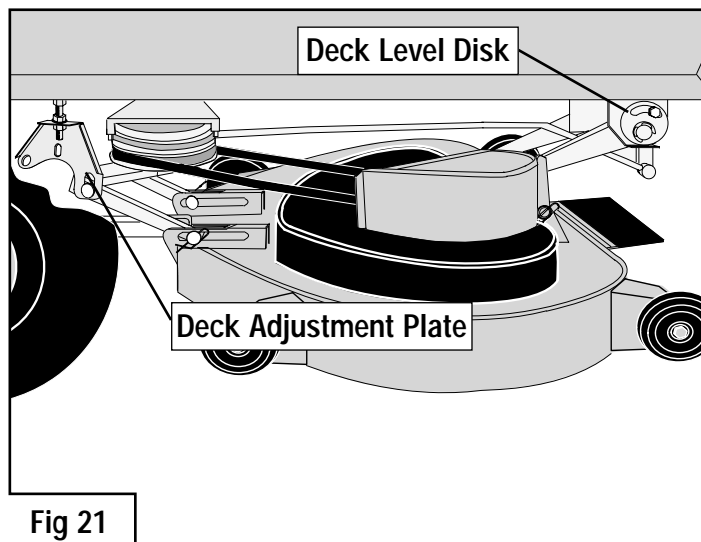

Fig 21
REAR ADJUSTMENT - Fig 21 & 22
1. Find the Deck Level Disk (fig 21) near the back (nearside) wheel. This has a concentric slot in which the Deck Levelling Rod is located.
FRONT ADJUSTMENT - Fig 21 & 23